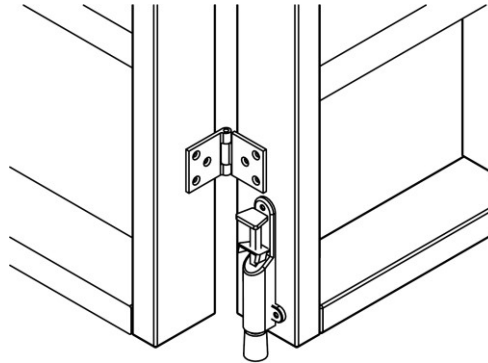

Figure 7: Floor bolt attachment
The climbing frame should be anchored to the ground for optimum stability. Attach the floor bolt ③ to the bottom of the right-hand section of the frame using the Spax screws ⑬ as shown in figure 7.